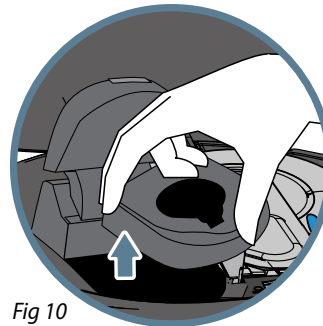

Fig 10
11. Lift out and machine wash (top rack only) (Fig. 10).